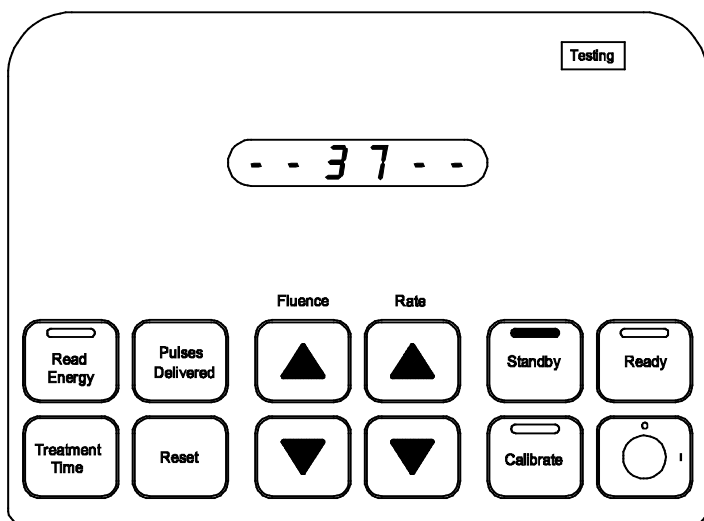

Figure 2
3. At the end of the lamp test, **Standby** and **Testing** are illuminated (Figure 2). The software version number will displayed following the lamp test.